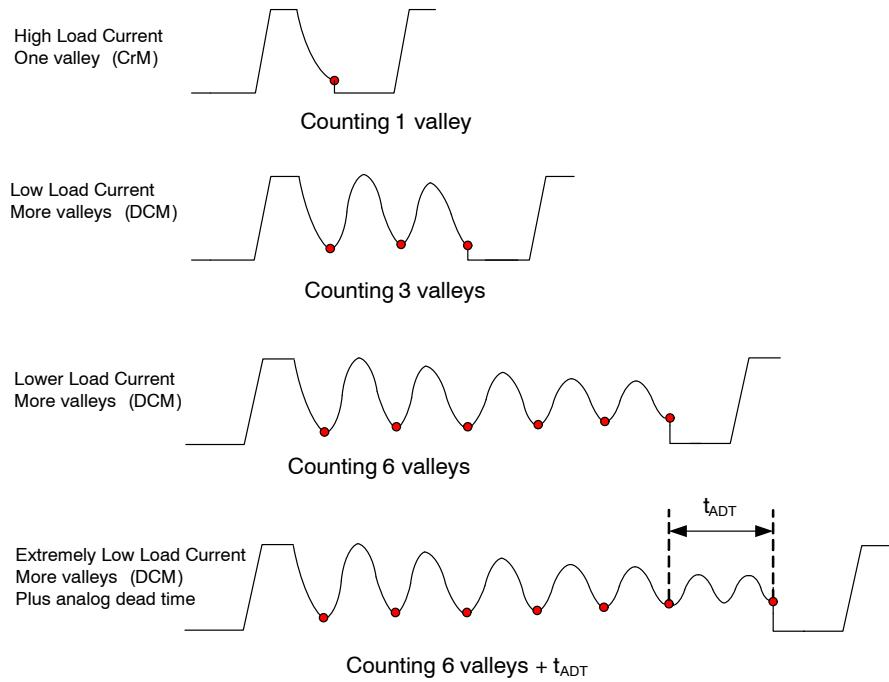
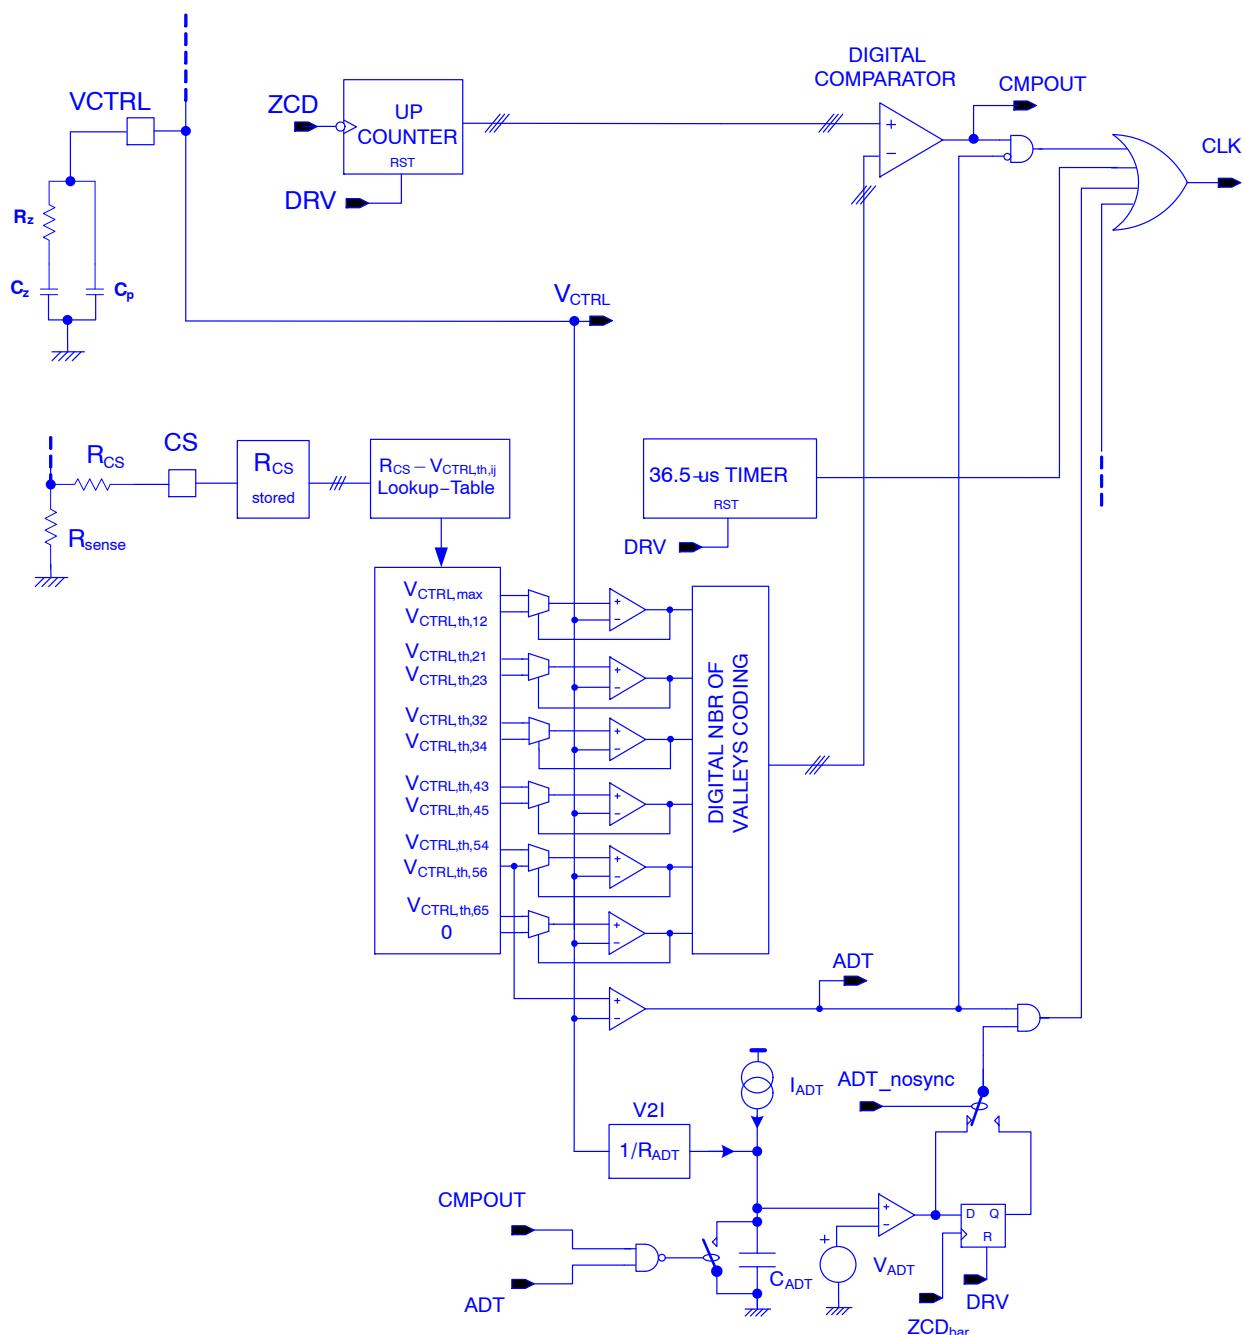
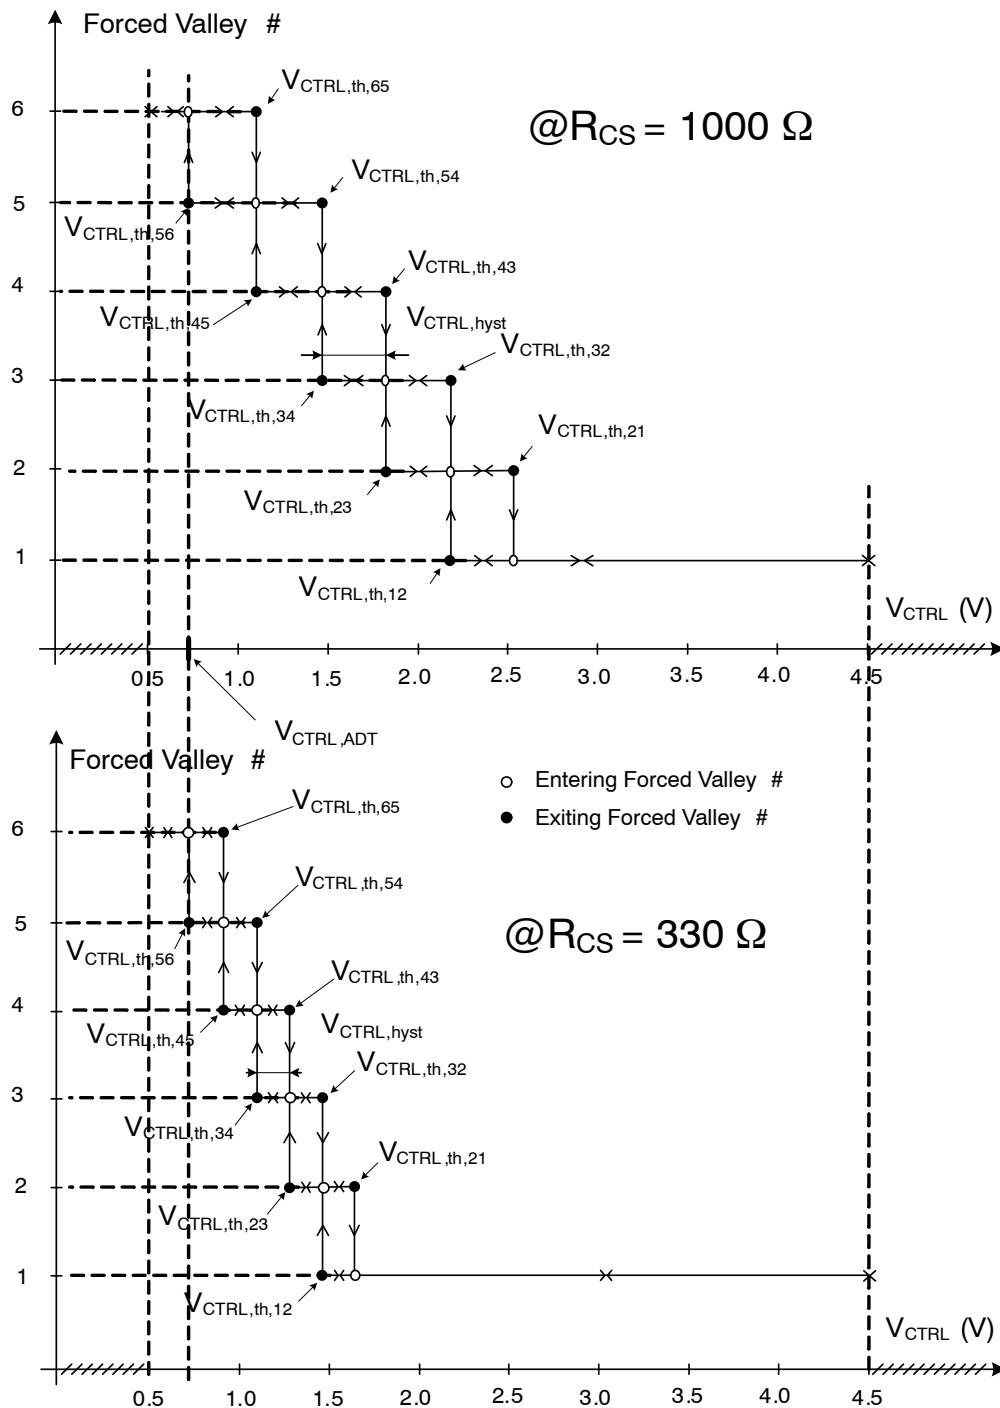

Figure 3. Valley Switching Operation in CrM and DCM Modes Seen Through Power MOSFET Drain Voltage
Figure 4. Valley Count Turn-on Block Diagram
Figure 7. Forced Valley Number versus VCTRL Pin Voltage For a Two Different RCS Values of the Mandatory List {150 Ω , 330 Ω , 620 Ω , 1000 Ω }
- **Valley Count Frequency Fold-back:** NCL2801 is designed to drive PFC boost stages in so-called Valley Count Frequency Fold-back (VCFF). In high load current condition, the circuit classically operates in *Critical conduction Mode (CrM)* also called 1st valley switching. When output power is decreasing, if a threshold is reached (determined by sensing the CS pin impedance during initial power up), a dead time based on a number of valleys is added. The number of valleys will increase, each time a dead time window (based on V_{CTRL} value) is entered. By construction, this counting process will avoid valley hopping during the mains voltage period. If the output power continues decreasing and the 6th valley is reached, extra “analog” dead time will be added based on a voltage ramp (see Figure 4). On-time will be synchronized with a valley. A timer will clamp the total switching period to not exceed 36.5 μ s (the switching frequency will never go under about 27.4 kHz). The switching frequency depends on output voltage, input voltage, and boost inductor value, and increases as the load power increases. Hysteresis and added to the VCTRL control windows to avoid valley hopping during steady state conditions. VCFF maximizes the efficiency at both nominal and light load. Similarly to FCCrM controllers, an internal circuitry allows near-unity power factor even when the switching frequency is reduced.
valley number count up to 6 valleys (the number of valleys between end of inductor demagnetization and power MOSFET turn-on determines the dead time value). After counting is done, the power MOSFET turns on at drain voltage valley. When 6th valley is reached and VCTRL voltage stays under 0.77 V, an extra “analog” dead time is added based on a voltage ramp (see Figure 4). The added analog dead time t_{ADT} is based on 0.77 V minus VCTRL value. t_{ADT} will be equal to zero when $(0.5\text{ V} - V_{CTRL}) = 0\text{ V}$ and will increase monotonically versus VCTRL decreases while VCTRL is under the 0.77 V threshold corresponding to $V_{CTRL,th,56}$. The analog dead time added t_{ADT} will equal typically 20 μs when $V_{CTRL}=0.5\text{ V}$.
As illustrated in Figure 3, under high load conditions, the boost stage is operating in CrM (only one valley is counted before turning on the power MOSFET). The second example shows a DCM state of operation where 3 valleys have been counted before turning on the power MOSFET. The third example shows a DCM state with lower output power than the previous one where 5 valleys have been counted before turning on the power MOSFET. The fourth example shows how additional dead time is added after 6th valley.
means of counting the falling edges of the ZCD signal until the counter reaches the number of valleys set by the window in which the VCTRL pin voltage is (see Figure 4). The 3-bit counter allows to work “Valley synchronized” up to 6 valleys. When the 6th valley is reached, and VCTRL is lower than 0.770 V ($V_{CTRL,th,56} = 0.770$ V whatever frequency foldback threshold setting), an additional analog dead time will be added to the 6 valleys dead time and there will be valley synchronization turn-on of the power MOSFET (ADT_nosync = 0 by default) based on falling edge of ZCD signal. The total dead-time (number of valleys and extra analog dead-time) will not exceed 36.5 μ s. As a result of this timer the minimum switching frequency will not go under 27.4 kHz.
There will be a different DCM to CrM threshold than CrM to DCM making an hysteresis to avoid valley hopping (see Table 7 and Figure 4).
As shown in Figure 7, the forced number of valleys, shown in the Y-axis, depends on 5 VCTRL pin voltage windows.
results from output power decrease. We can also mention looking at Figure 7 and the specified frequency foldback thresholds of Table 7 that $V_{CTRL,th,56}$ which is the V_{CTRL} threshold at which we force counting 6 valleys, has always the same value. This threshold is also called $V_{CTRL,ADT}$ because when VCTRL pin voltage falls under this threshold, an analog dead-time starts to be added to the dead-time determined by counting 6 valleys. The lower VCTRL pin voltage goes under $V_{CTRL,ADT}$ threshold, the more analog dead time is added. An example on how the analog dead time can be added is shown in the circuit of Figure 4 and the correspond power MOSFET drain voltage is shown in Figure 3.